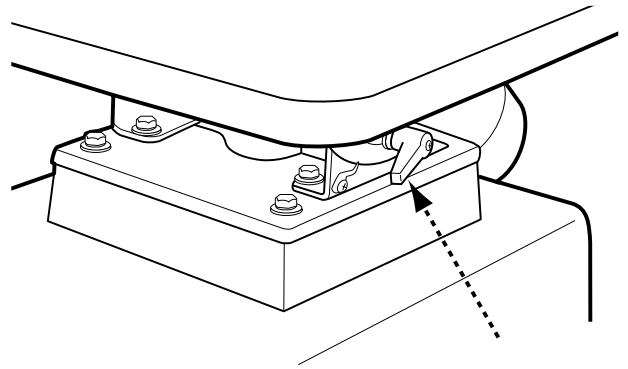

FIGURE 10
- Loosen both table tilt locking levers. (see Figure 10).